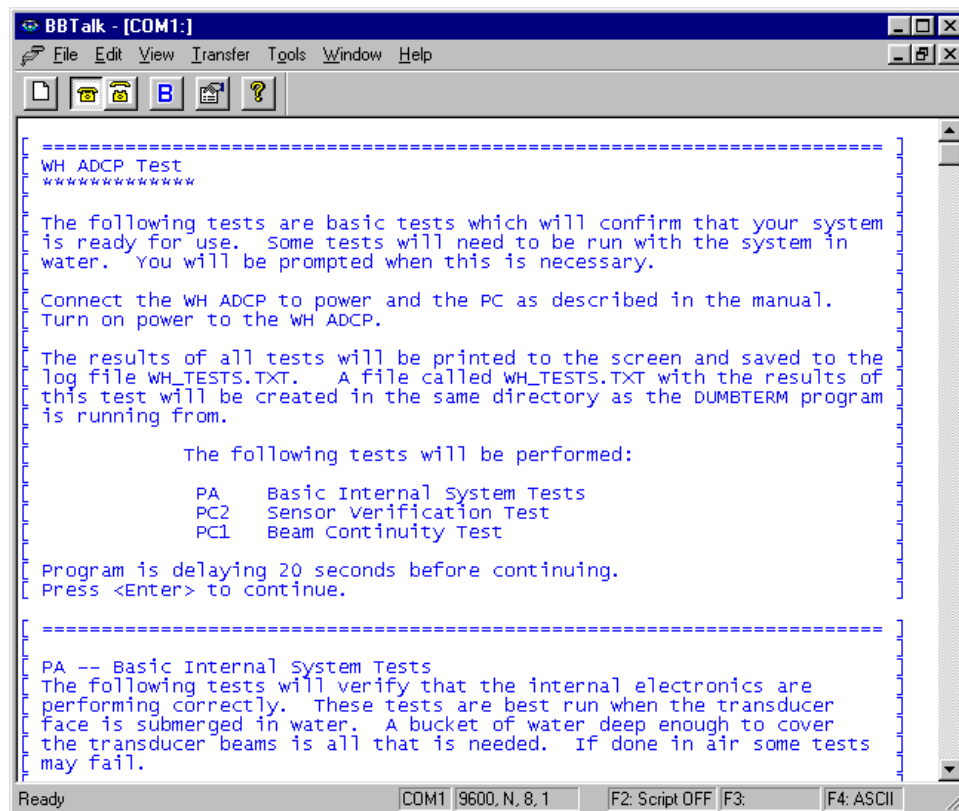

Figure 9. Running a Script File to Test the ADCP
- f. Follow the prompts on the screen (see Figure 9, page 13).